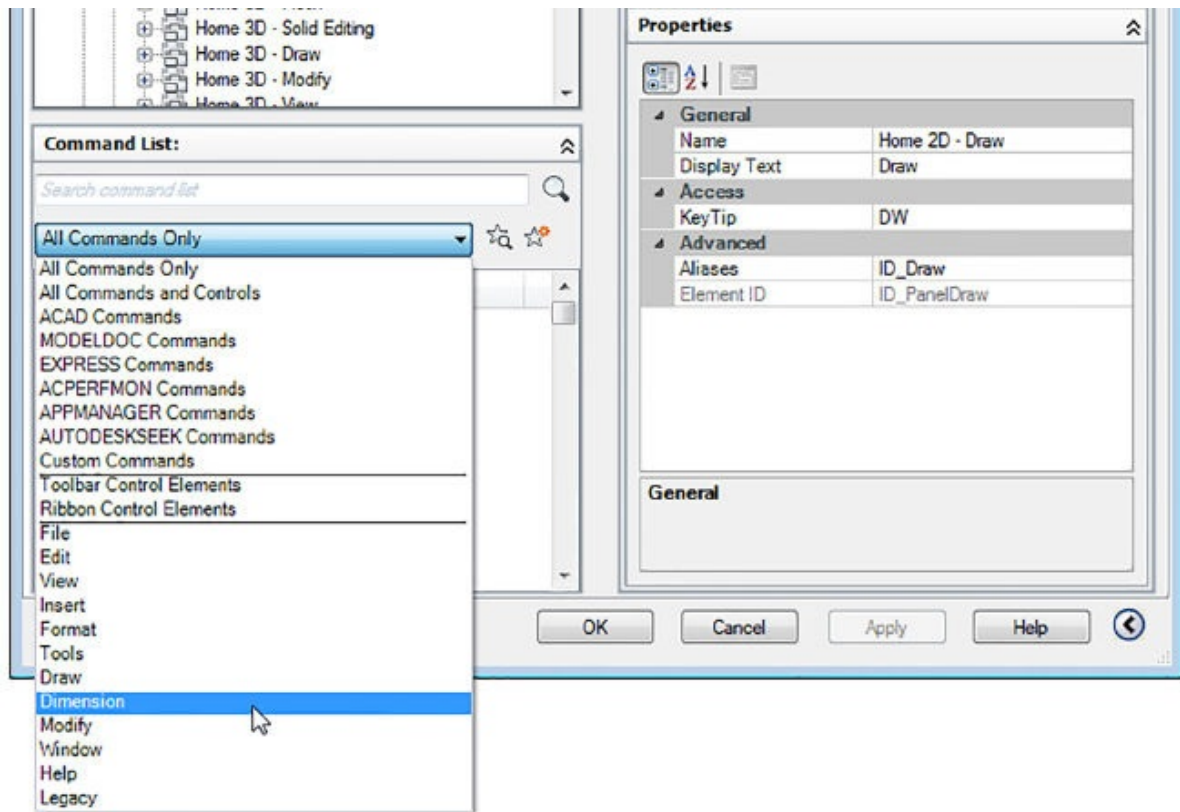

FIGURE 24.5 Choose the Dimension category.
6. In the Command List group, select Dimension from the Filter The Command List By Category dropdown list (see Figure 24.5).